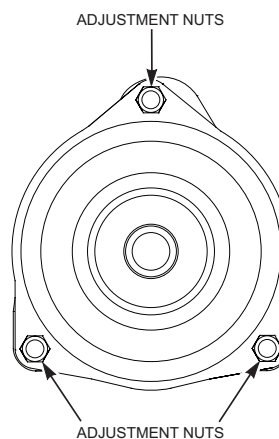

Figure 6-8. Clutch Adjustment Bolts
3. Tighten or loosen the adjusting bolt as needed to achieve the 0.015" air gap. See Figure 6-8.